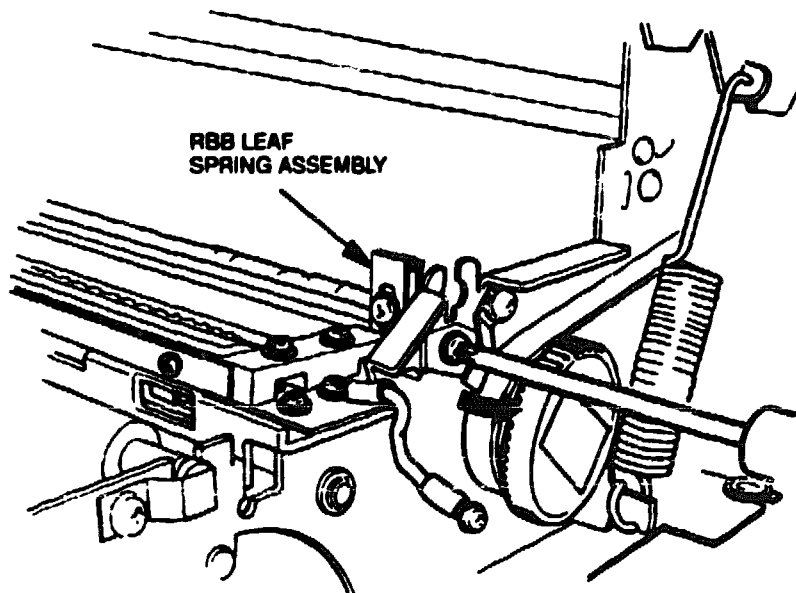

Figure 4-13 RBB Leaf Spring Adjustment
5. Loosen the screw that secures the RBB leaf spring assembly (see Figure 4-13). If the value on the tension gauge measured in step 3 is smaller than 100 g, raise the RBB leaf spring assembly and tighten the screw (see Figure 4-13). This will increase the drag on the roller. If the measurement is larger than 200 g, lower the RBB leaf spring assembly and tighten the screw. This will decrease the drag on the roller.